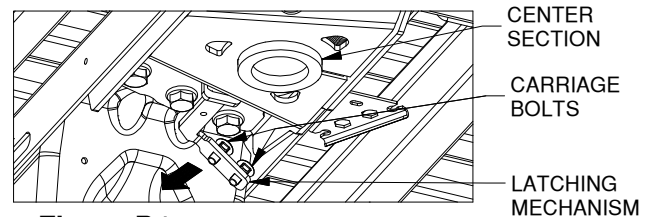

**Figure C2:** View under bed looking at center.
2. **Tighten the bolts.** With the hitch square and firmly pressed against the frame cross member, tighten the 5/8" bolts. Tighten the center bolt of each three-bolt pattern first, see figure C1. Then tighten the rest, see figure C2. To better access the bolts on the passenger side of the center section move the exhaust as needed to allow access to the bolts. Torque the bolts to 150 ft. lbs.